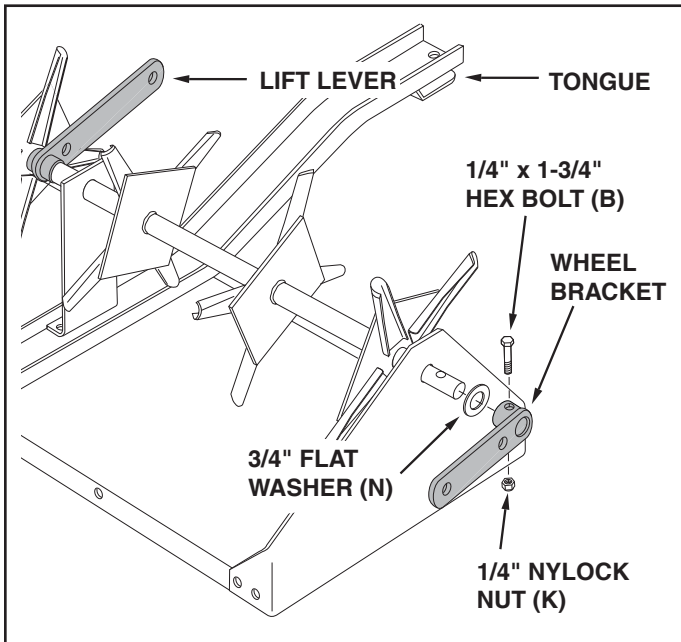

FIGURE 8 UPSIDE DOWN VIEW
12. Standing behind the tray, place the **long end** of the shaft through the end plate on your right as shown in figure 8. Place the other end of the shaft through the end plate on your left. Make sure the bent end of the middle brace rests flat inside the tongue.
13. Assemble a 3/4" flat washer (N) and a wheel bracket onto each end of the shaft. Turn each wheel bracket to point in the opposite direction from the lift lever. Secure each wheel bracket with a 1/4" x 1-3/4" hex bolt (B) and 1/4" nylock nut (K). **Tighten**. See figure 8.